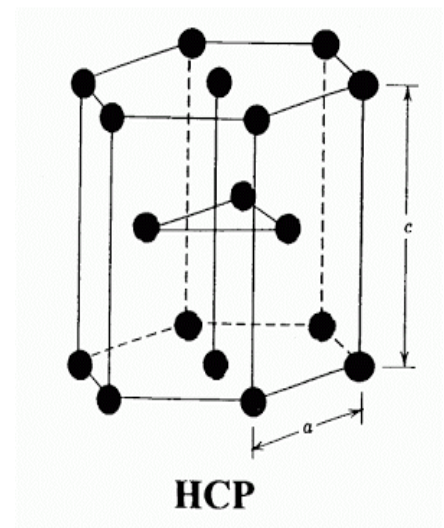

Figure 1: HCP Crystal Structure
5. Figure 1 shows the structure of an ideal hexagonally close packed crystal. Derive the ratio “c/a”, where ‘c’= height of crystal and ‘a’= base edge length.